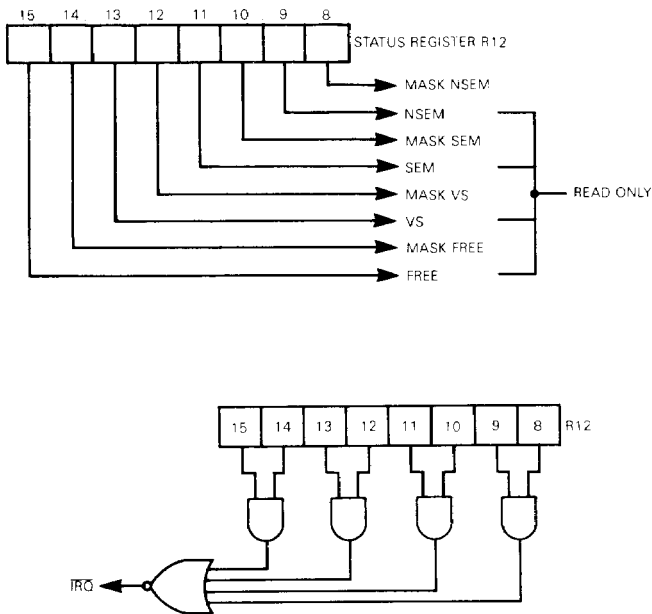

FIGURE 2.9. - STATUS REGISTER
2.5.6. Status register (See figure 2.9).